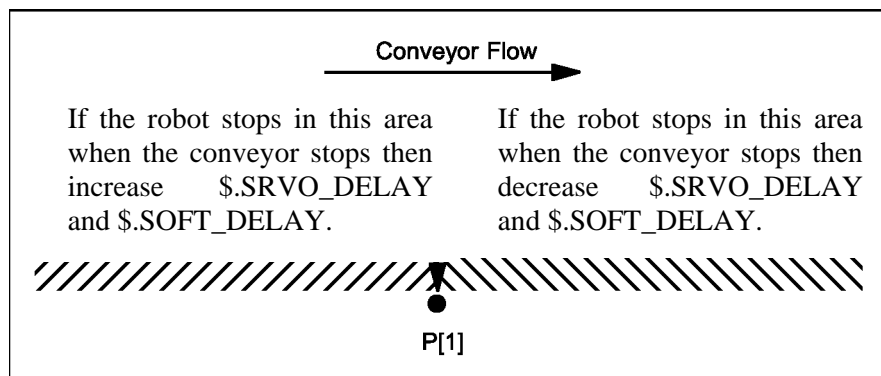

Fig. 5.4.2 Modifying \$LNCFG_GRP.\$SRVO_DELAY and \$LNCFG_GRP.\$SOFT_DELAY
2. Verify that the robot is lined up at the correct position while the conveyor is moving and the program is running. If the robot is not lined up perfectly with P [1] then modify \$LNCFG_GRP.\$SRVO_DELAY and \$LNCFG_GRP.\$SOFT_DELAY as shown in Fig. 5.4.2 .